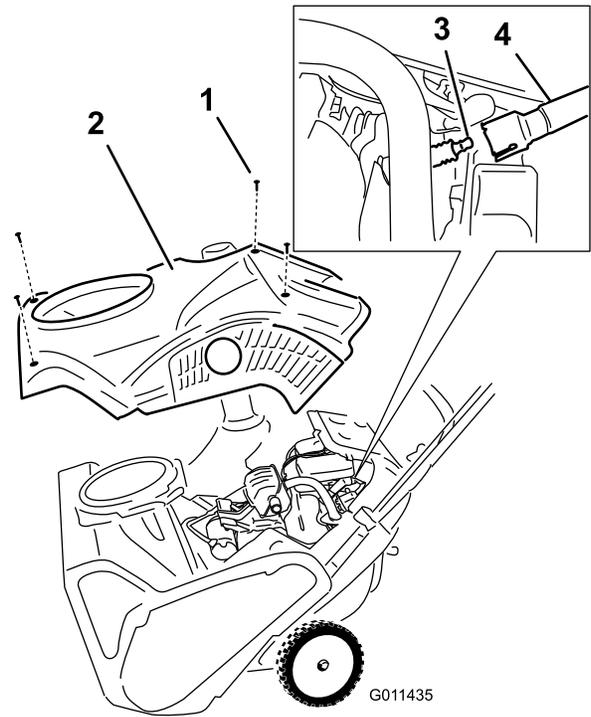

Figure 28
4. Remove the 4 screws that secure the shroud (Figure 28).
6. Remove the shroud (Figure 28).